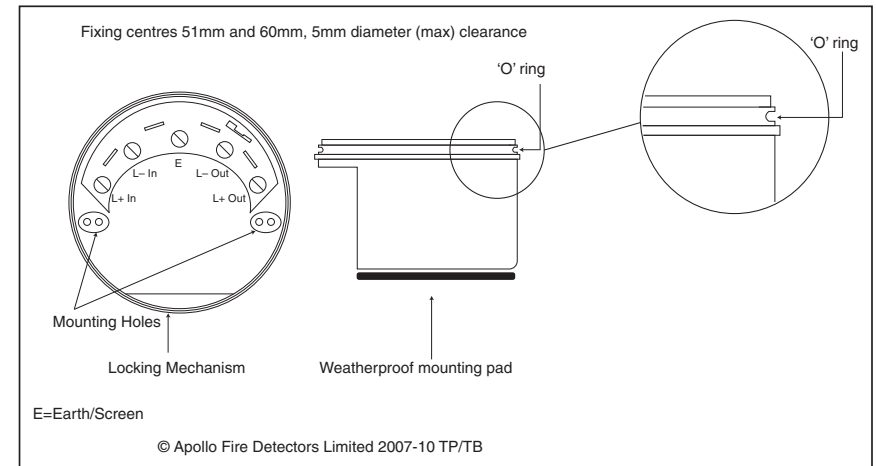

Fig 8 Base diagram
2. Secure the base to the mounting surface with pan-head screws. If IP integrity is required, fit the weatherproof mounting pad between the base and the mounting surface. Fit the 'O' ring to the base (Fig 8). Attach head to base using a lubricant such as silicone grease if required.
3. To lock the sounder in the base, snip the break-out on the base rim (location shown in Fig 8.). Fit the sounder to the base, using above steps if IP integrity is required.